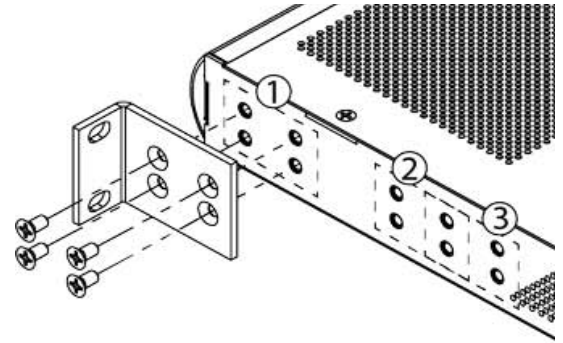

Figure 1. Mounting Ears
- For 19" racks, use (2) C590-1936-10
- For 23" racks, use (2) C590-1937-10
**Step 2.** Attach the two (2) front mounting ears in the appropriate configuration using the included #10-32 hardware as shown in Figure 1.